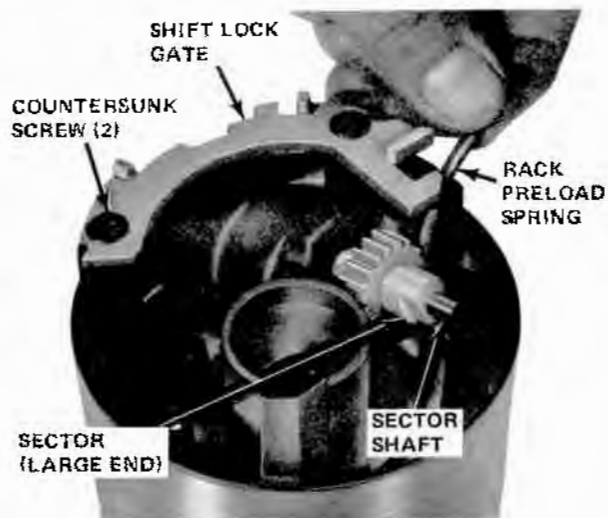
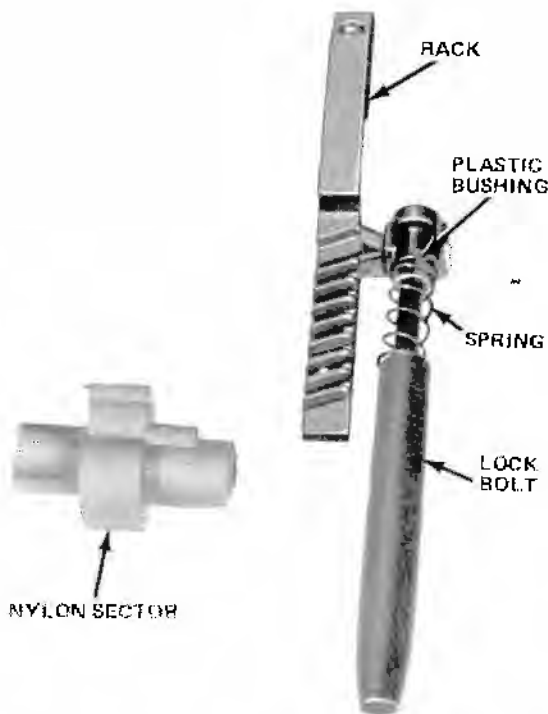

Fig. 11-12 Rack Preload Spring Removal
Fig. 11-19 Lock Bolt, Rack, and Sector
(22) Remove lock bolt and rack. If rack preload spring requires service, remove at this point (fig. 11-12).
(32) Remove spring.
(33) Lift remote lock rod and rack assembly, and lock bolt and spring assembly out of housing. If rack preload spring requires service, remove at this time (fig. 11-12).
(34) If sector gear requires service, note position of sector on shaft for aid in assembly, and remove by driving it from its shaft with a suitable punch.
(1) Install sector into upper housing. Place large end of sector through lock cylinder hole and onto sector shaft (fig. 11-12). Press sector onto shaft with a blunt tool.
(2) If removed, insert rack preload spring into housing from lower end. Hook both ends of spring onto housing.
(3) Assemble lock bolt, rack, and remote rod (fig. 11-19). Install into housing.
(2) Align shift bowl with shift tube spline and install bowl.
(3) Install rack preload spring into upper housing (fig. 11-12).
(4) Place large end of sector on sector shaft and press into position (fig. 11-12).
(5) Install shift lock gate using two countersunk screws (fig. 11-12).
(6) Install shift quadrant light and place light cover in position.
(7) Place shift quadrant indicator into position and press retainer clips into place with flat side towards bowl.
(8) Place lock bolt on rack (fig. 11-19) and install assembly into bowl.